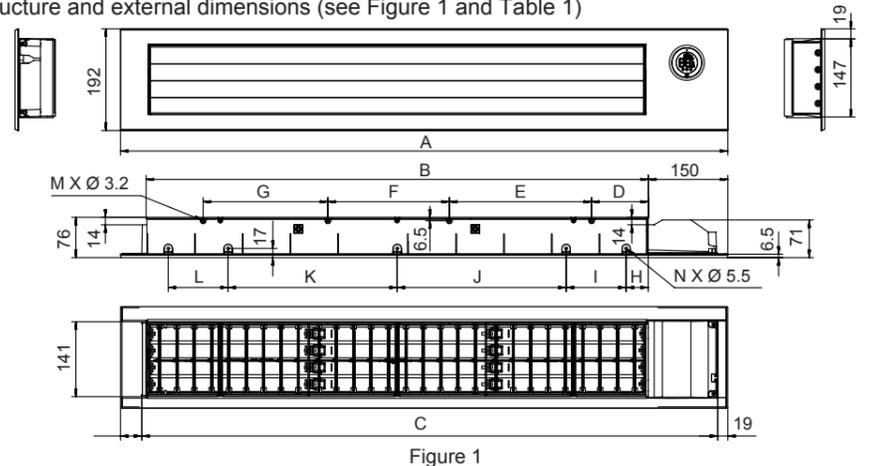

Figure 1
1. Structure and external dimensions (see Figure 1 and Table 1)